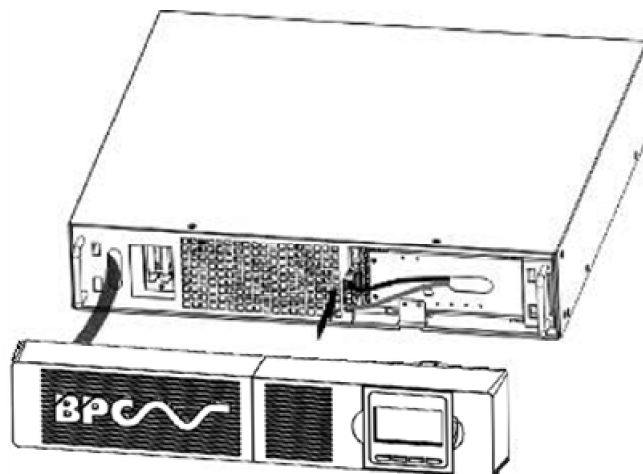

Figure 6 - Connecting the UPS Internal Batteries
b) Connect the internal battery connector (see Figure 6)